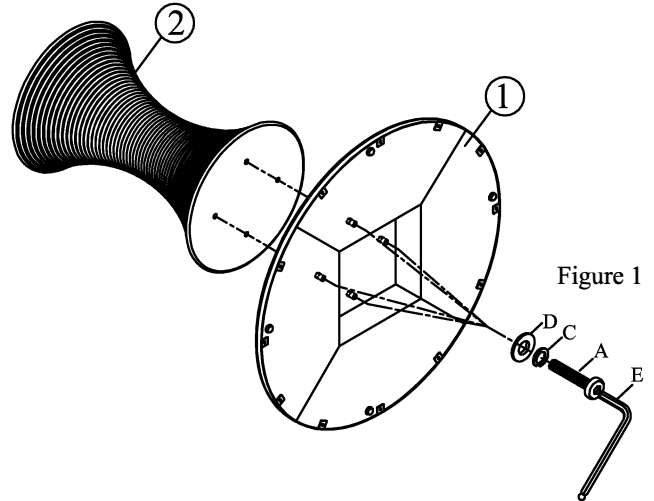

Figure 1
- STEP 1. Assemble base (1) and post (2) using bolt (A), lock washer (C), flat washer (D) and tighten them by allen key (E). See Figure 1